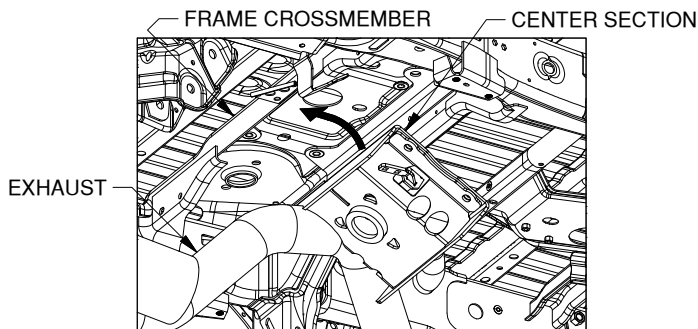

Figure B5: Looking up at the bed from forward of driver side tire.
3. **Install the center section.** With the latch pin mechanism on the drivers side, raise the center section into place as shown, see Figure B5. In order to clear structures under the truck bed, the center will have to be lifted into place on an angle over the exhaust, then positioned directly under the frame cross member so that the raised portion of the center can be pushed straight up through the hole in the frame cross member, and through the hole in the plastic spacer block. Having assistance in the bed to guide the top of the center section is recommended. Line the 4 holes in the center section up with the frame holes and the holes in the fastener handles. Thread a 5/8" flange head bolt into each hole.